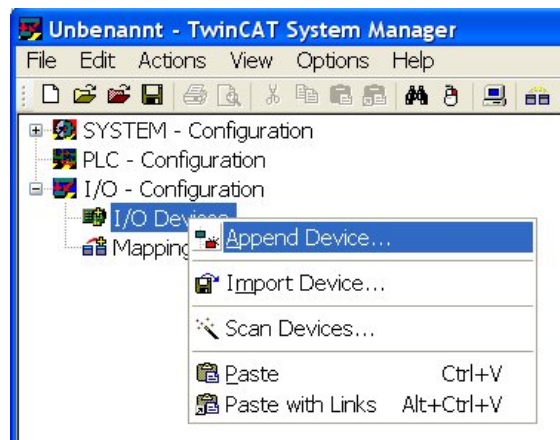

Fig. 13 Inserting a device.
- ➔ In **I/O – Configuration / I/O Device**, select the item **Append Device** (Fig. 13).